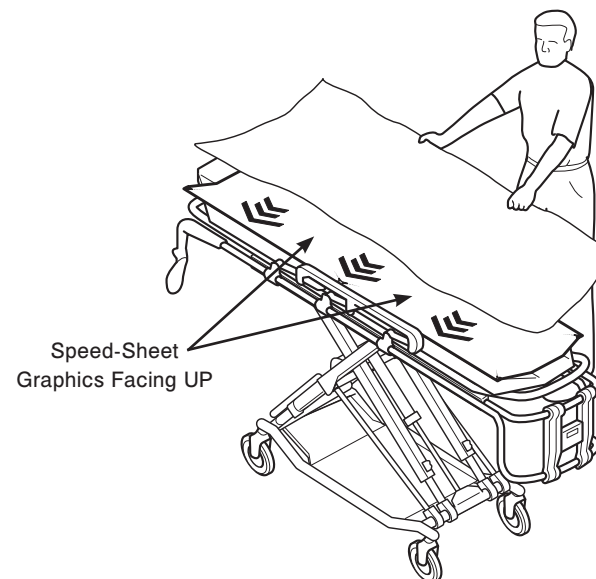

Figure 2
5. Place a linen sheet on top of Speed-Sheet (Figure 2).